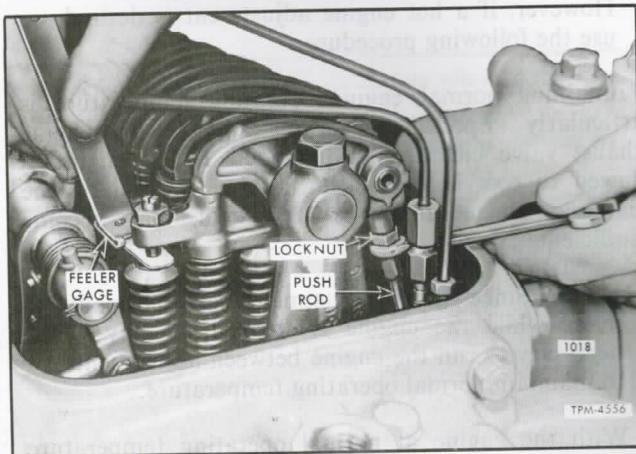

Fig. 2 - Adjusting Valve Clearance (Spring-Loaded Valve Bridge)
5. Place a .016" feeler gage (J 9708-01) between the end of the exhaust valve stem and the valve bridge adjustment screw (spring-loaded bridge only) or between the valve bridge and the valve rocker arm pallet (unloaded bridge only) -- refer to Figs. 2 and 3. Adjust the push rod to obtain a smooth pull on the feeler gage.